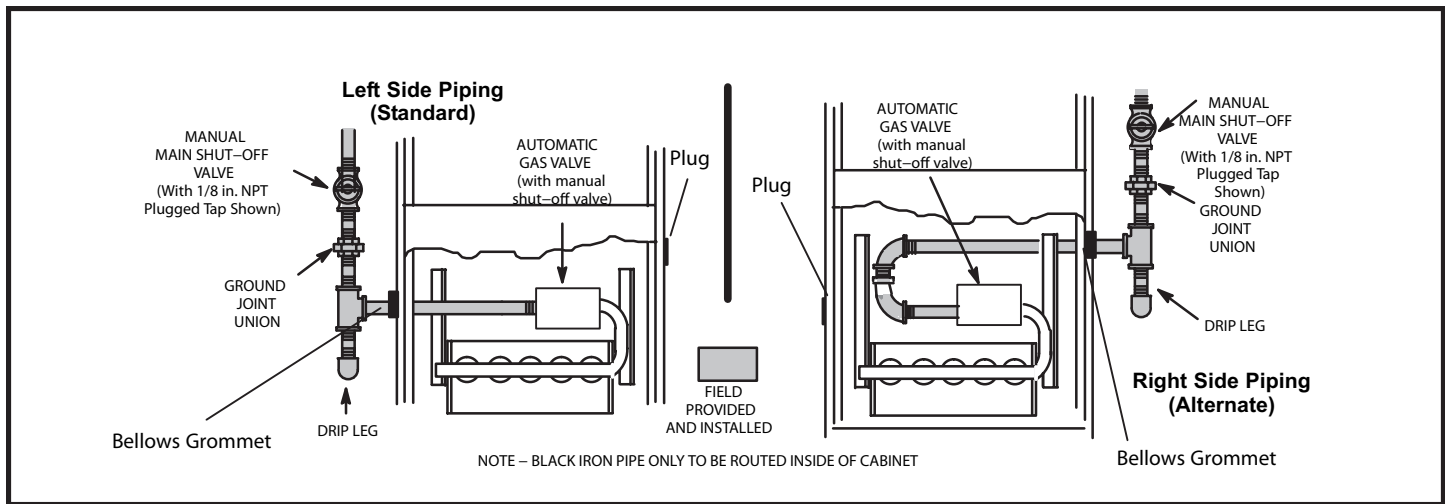

Figure 42
1. Gas piping may be routed into the unit through either the left or right hand side. Supply piping enters into the gas valve from the side of the valve as shown in Figure 42. Move bellows grommet to side of the cabinet which the gas line enters. Ensure opposite gas line entrance is plugged with supplied plug.
3. Gas piping must not run in or through air ducts, clothes chutes, chimneys or gas vents, dumb waiters or elevator shafts. Center gas line through piping hole. Gas line should not touch side of unit. See Figures 42.